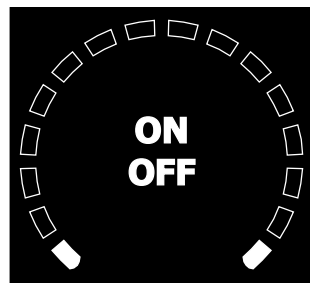

Fig. 1
- All surface element displays will show indicator lights (see Fig. 1).